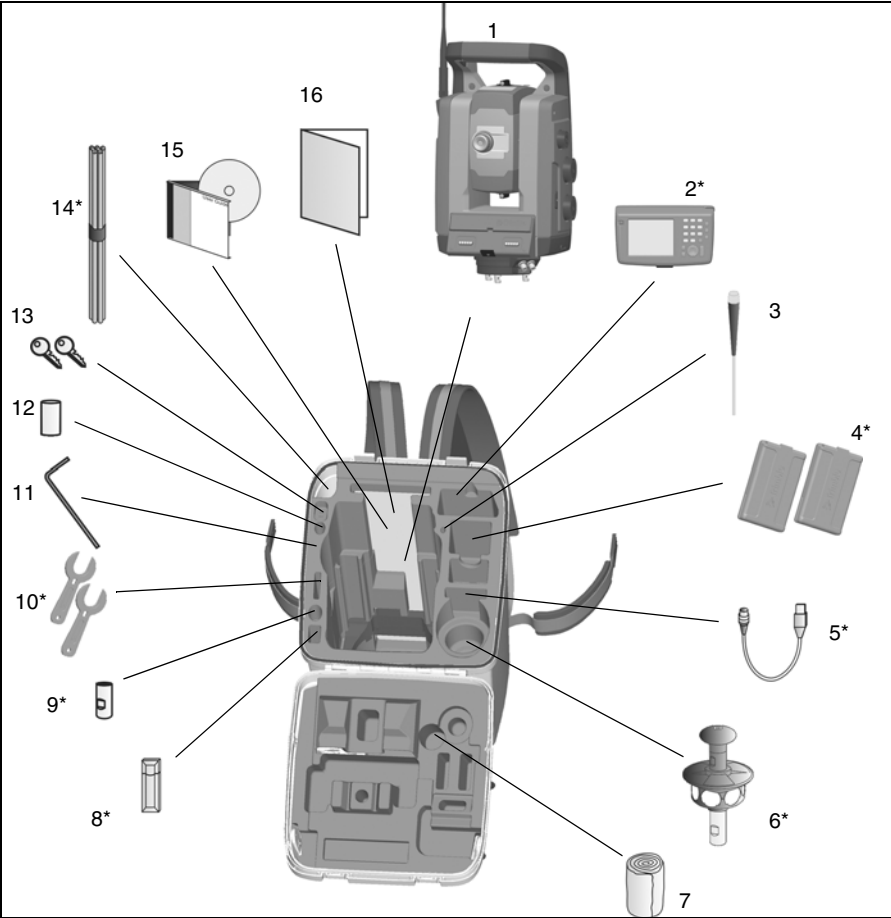

Figure 2.1 Position of items in the instrument case
When unpacking the instrument, check that all ordered items are received. Below is an example of where all items can be placed in the instrument case. See figure 2.1.
**Note** – Some of the items described in figure 2.1 are optional and not all of the items are delivered with the instrument, some items are delivered with the accessory kits.
**Caution** – When shipping an instrument, make sure that the Trimble CU is not attached to the instrument. Place the Trimble CU in its own compartment in the transport case to avoid damage to the instrument. See Figure 2.1